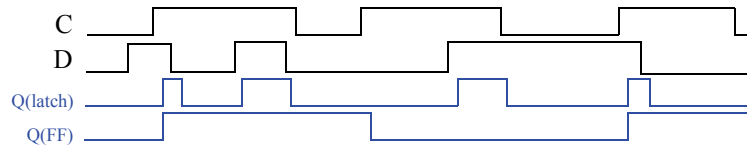

Figure 3.99
- 3.14 Compare the behavior of D latch and D flip-flop devices by completing the timing diagram in Figure 3.99. Provide a brief explanation of the behavior of each device. Assume each device initially stores a 0.